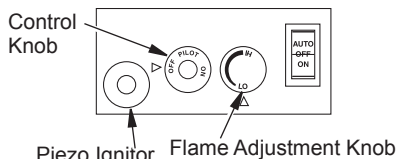

Figure 12 - Setting Control Knobs
to the OFF position (see Figure 12).
5. Wait five (5) minutes to clear out any gas. If you then smell gas, **STOP!** Follow "B" in the safety information in column 1. If you don't smell gas, go on the next step.
6. Press in and turn control knob counter-clockwise to the PILOT position. Press in control knob for five (5) seconds (see Figure 12).